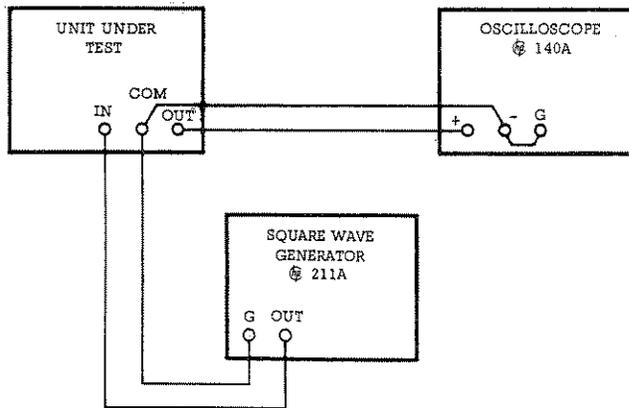

Figure 5-7. Programming Speed, Test Setup
a. Connect test setup shown in Figure 5-7.